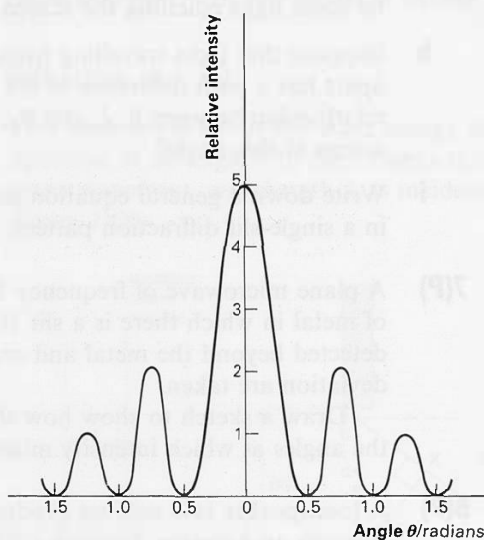

Figure J103
- a Figure J103 shows the same data, plotted in a form familiar from earlier work. Explain how it is related to figure J102. Why may figure J102 be more useful?